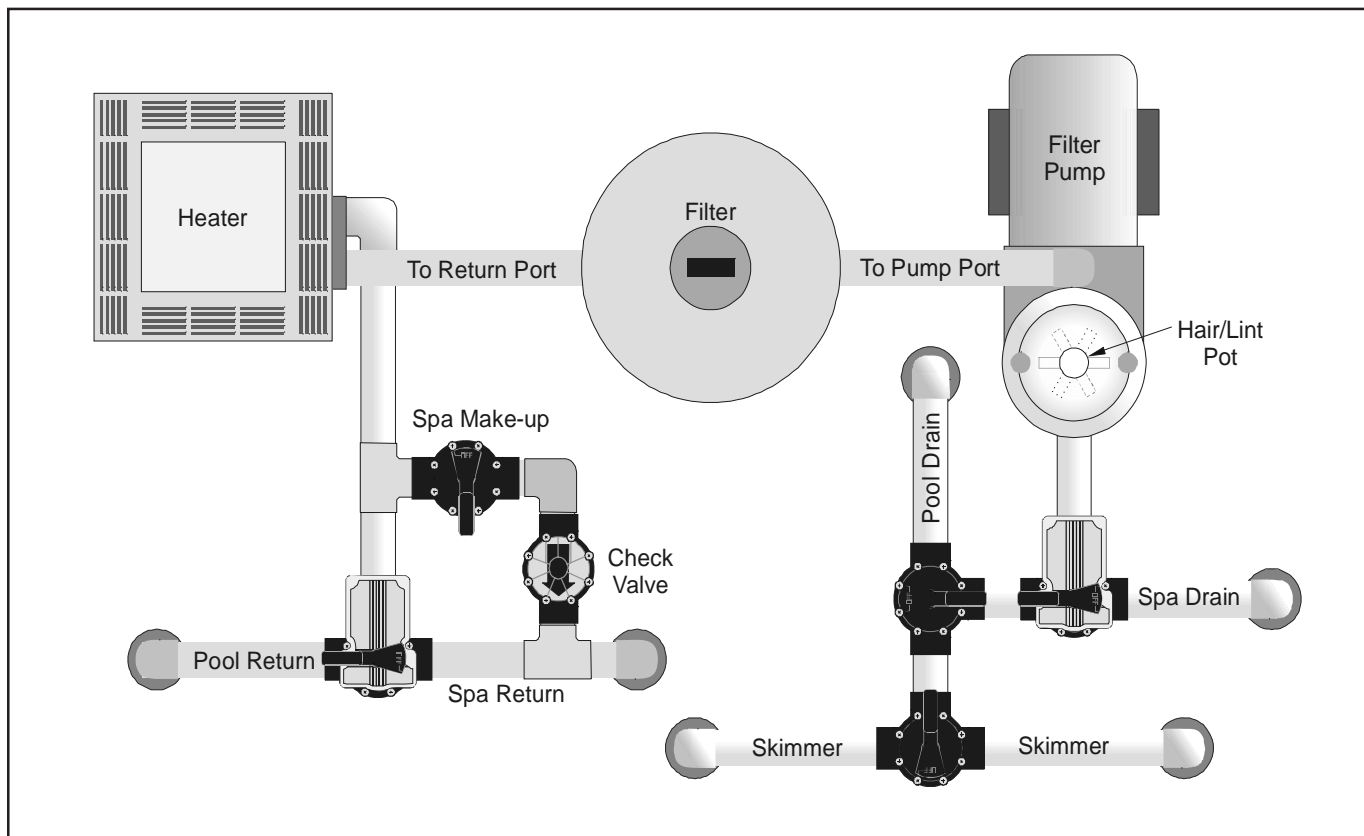

Figure 4- Basic Pool/Spa Combination Plumbing
3. Place the filter on the concrete pad, lined up with the inlet/outlet pipes (see Fig. 4).
**NEVER** start pump while standing within five (5) feet of the filter. Starting the pump while there is pressurized air in the system can cause the filter lid to be blown off, which can cause death, serious personal injury or property damage.